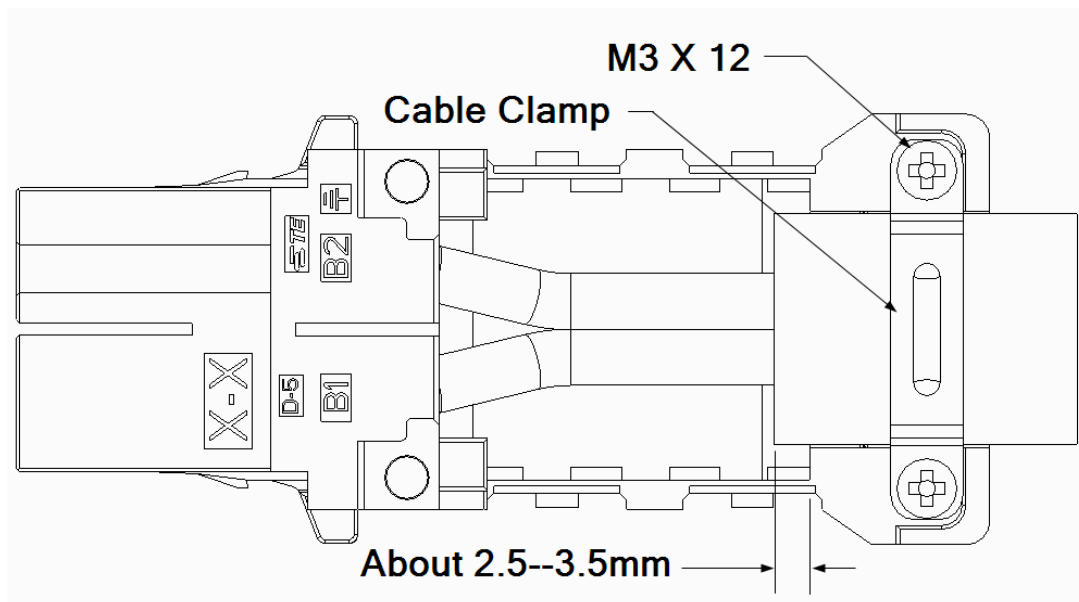

Fig. 4
- 4) Make the right cable position. At first, set the end of cable to the position in accordance with Fig.4 and with keeping cable. Next, holding this position, put a cable clamp on a jacket binds, and fix a M3X12 bind screw tight on the housing. Please give the bolting torque of a screw as about 2.2~2.8kgf•cm.